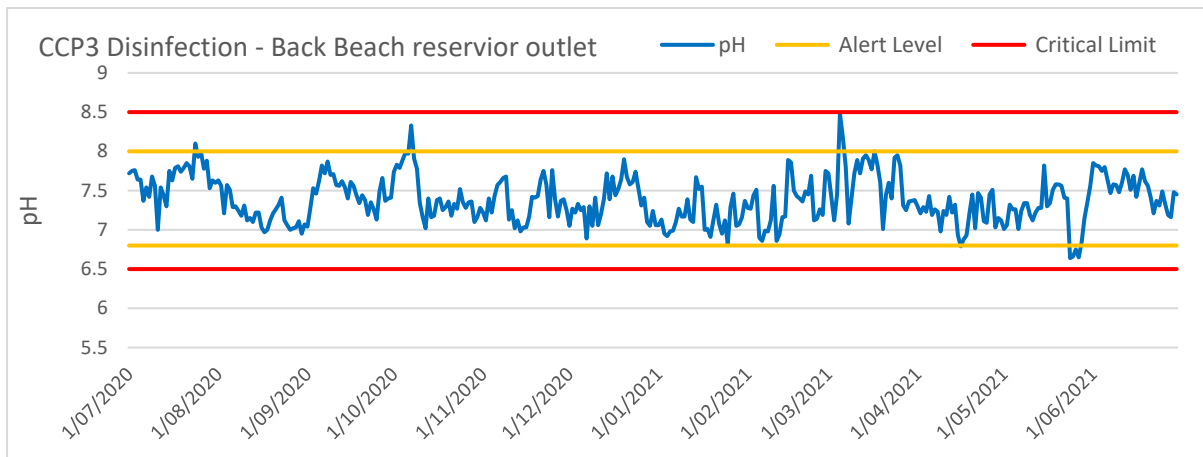

Figure 4.3.2c CCP3 Disinfection – pH at Back Beach Reservoir outlet
The nine pH Alert Levels (Figure 4.3.2c) included:
- Four (4) high Alert Level pH caused by low water levels in the reservoirs that impact lime dilution. The low water levels were caused by:
- One (1) marginal (6.79 pH) low pH Alert Level in April 2021 (Figure 4.3.2c). No action was taken the system self-corrected with the following day with a result of 6.88 pH.
- Four (4) low pH Alert Levels in May 2021 from mechanical breakdowns of the pH dosing system; pH was self-corrected a few days after repairs completed.